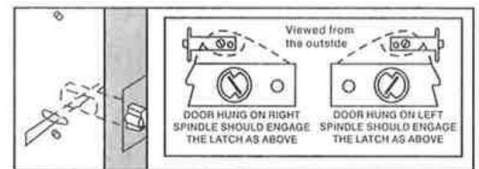

Figure 4
- When inserting the spindle correctly locate it into the reverse of the Digital Lock with consideration to the handing of the door. (Figure 4)